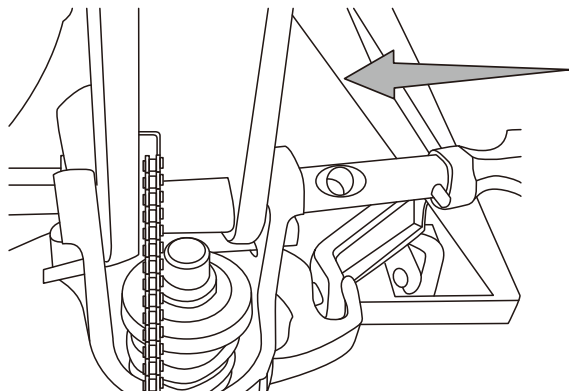

Fig. 2
2.1 Insert the draw-bar onto the pump piston A346, then use a hammer to insert the axle with hole A105 into the hydraulic pump and draw-bar from the right to left. (See fig. 2).